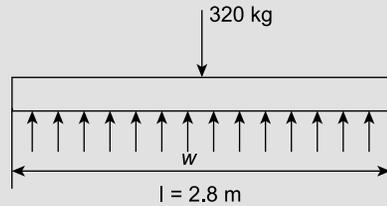

Figure 9.8
**Problem 4.** A rectangular plank of wood of length 2.8 m is floating horizontally in still water, as shown in Figure 9.8. If the cross-section of the wooden plank is of rectangular form, of width